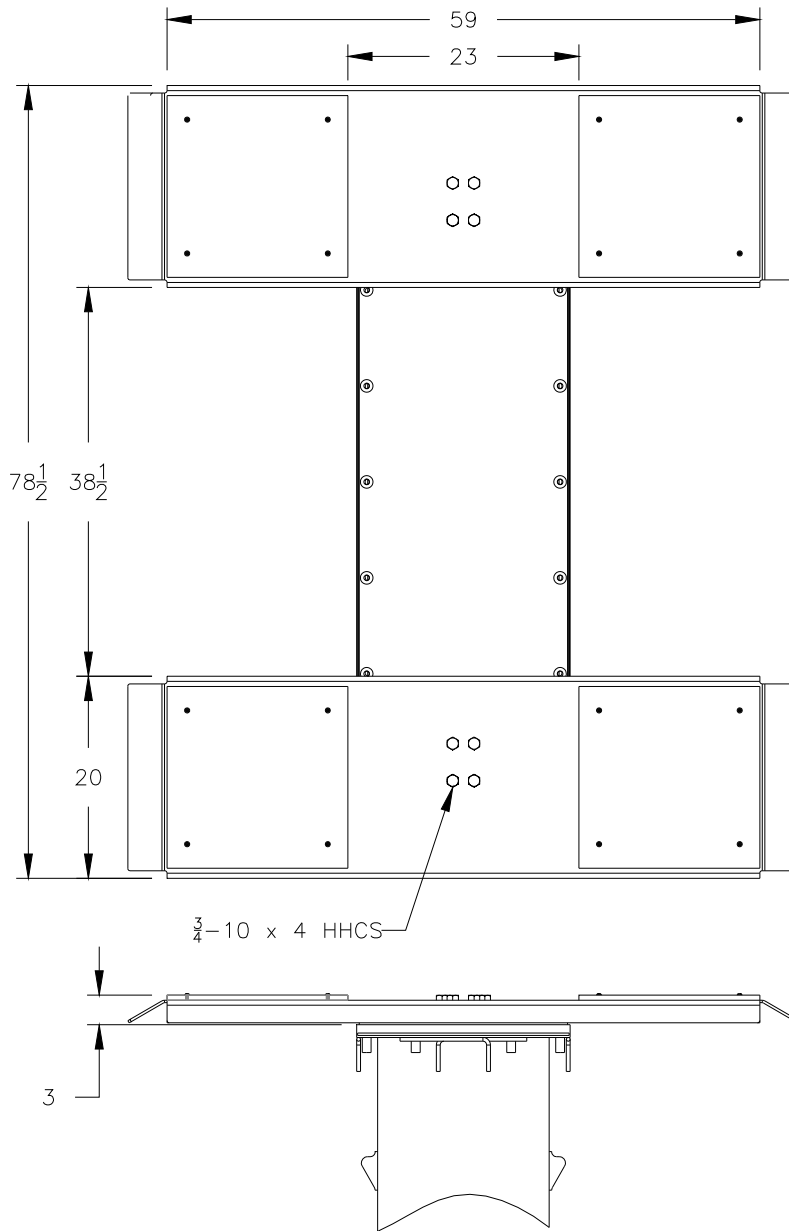

Figure 1
- 1) Note orientation of pads in Figure 1.